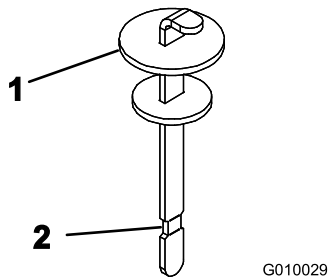

Figure 62
4. Remove the dipstick from the filler neck and wipe it with a clean rag. Insert the dipstick into the filler neck; then remove it and check the level of the fluid. The fluid level should be up to the mark on the dipstick (Figure 62).